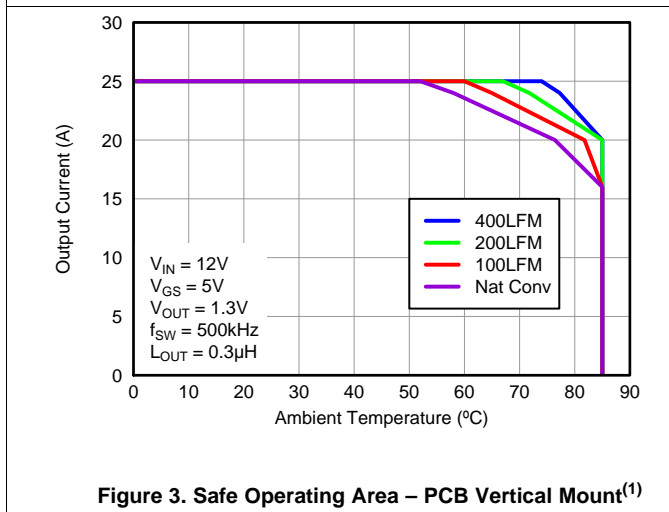

Figure 3. Safe Operating Area – PCB Vertical Mount⁽¹⁾
The SOA curves in the CSD87352Q5D data sheet provides guidance on the temperature boundaries within an operating system by incorporating the thermal resistance and system power loss. Figure 3 to Figure 5 outline the temperature and airflow conditions required for a given load current. The area under the curve dictates the safe operating area. All the curves are based on measurements made on a PCB design with dimensions of 4 in (W) x 3.5 in (L) x 0.062 in (T) and 6 copper layers of 1-oz copper thickness.